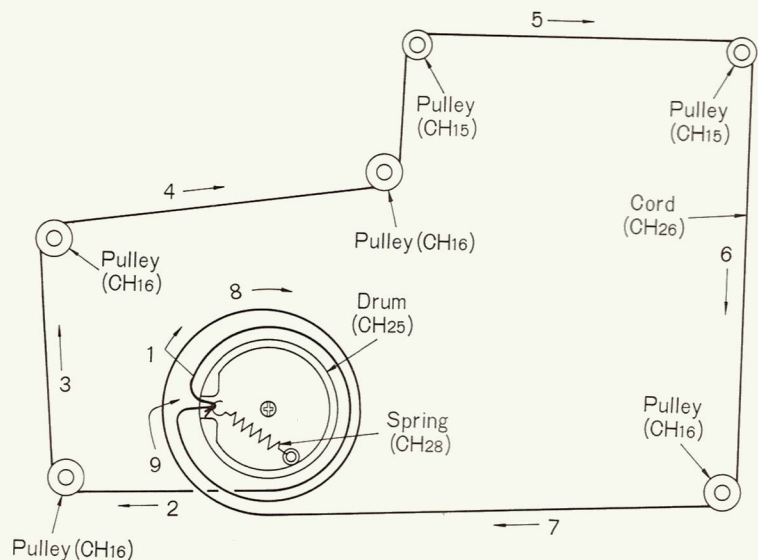

Fig. 28
4. Arrows (1~9) indicate correct order and direction of cord installation, as shown in fig. 28.